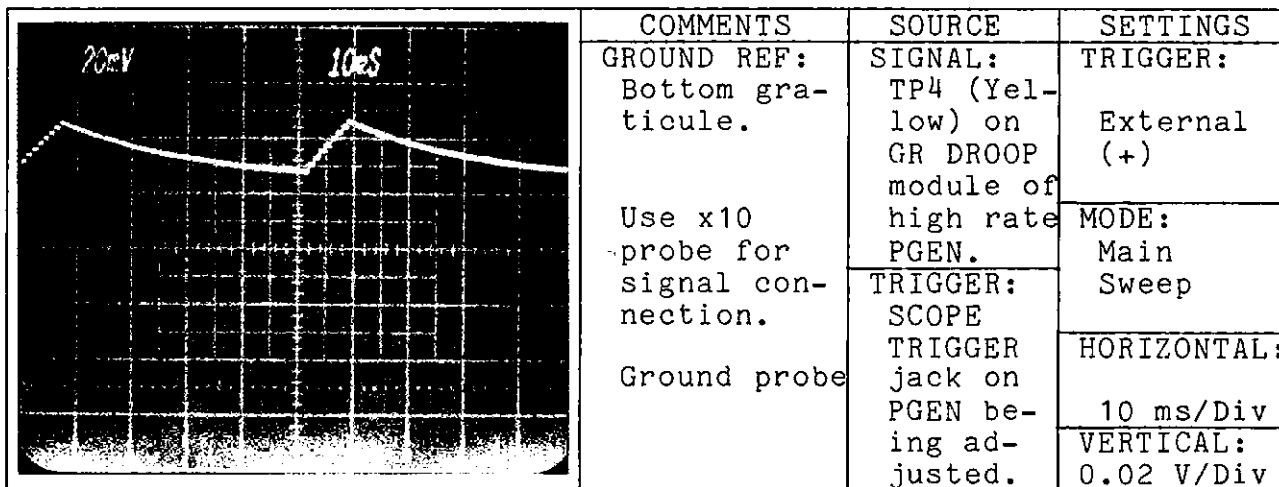

Figure 2.28. Proper Same Rate Ladder Waveform
- f. Both ladder waveforms are now equal in magnitude, and the DC Reference level is approximately 1.1 volts. There should be no difference in the waveforms when the trigger is moved. If there is, repeat the above steps until the two waveforms are equal. When this is accomplished, this module is the standard. Do not adjust it in any of the following steps. Figures 2.28 and 2.29 show the proper appearance of the "standard" waveform.